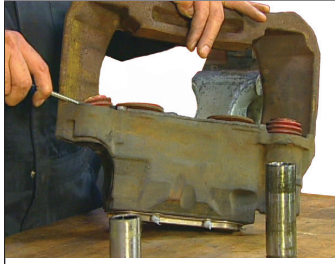

Figure 68 – Remove the Retaining Rings, Guide Pins, and Boots
4.6.10 Remove the boot retaining rings (58) and the guide pins (39) and (40). Use a screwdriver to pry out the inner boots (9). See Figure 68. Discard the removed items.